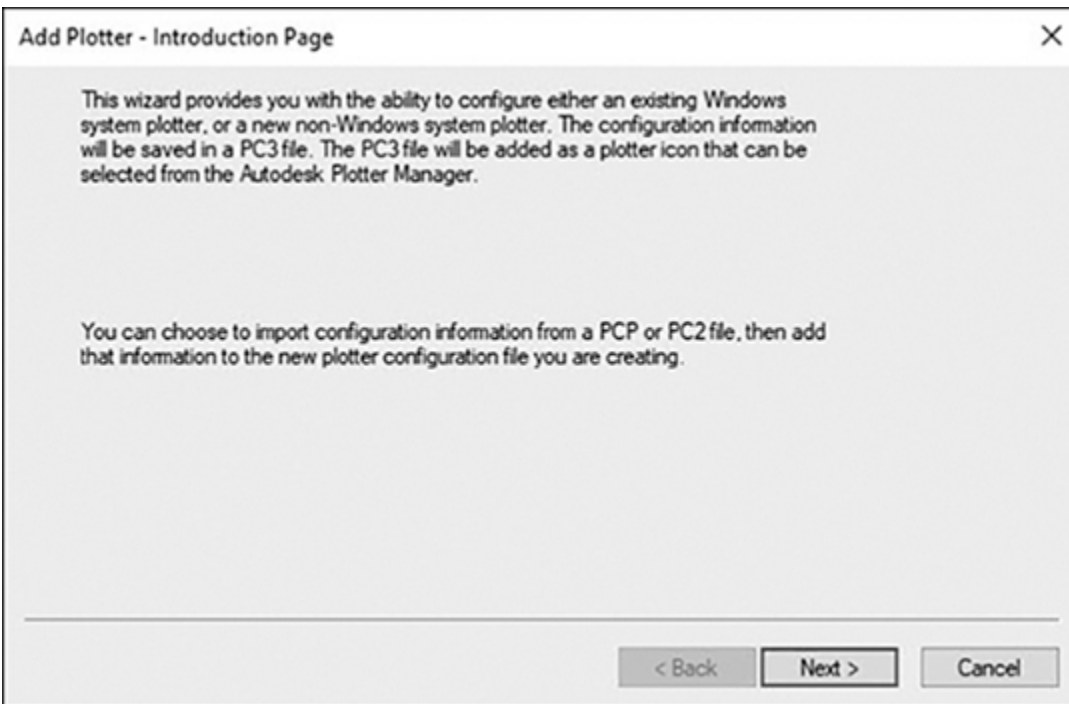

Figure 15-27
The **Add-a-Plotter** wizard walks you through the process of creating a new plotter configuration file (see Figure 15-27). This wizard allows you to create a new plotter configuration using either AutoCAD-supplied print drivers or drivers supplied by the printer manufacturer, or by importing a plotter configuration file from an earlier version of AutoCAD (.PCP or .PC2 files).
- 4** Choose **My Computer** to tell AutoCAD that the printer will be controlled locally from your computer (see Figure 15-27). Choose **Next** to continue to the **Plotter Model** step.